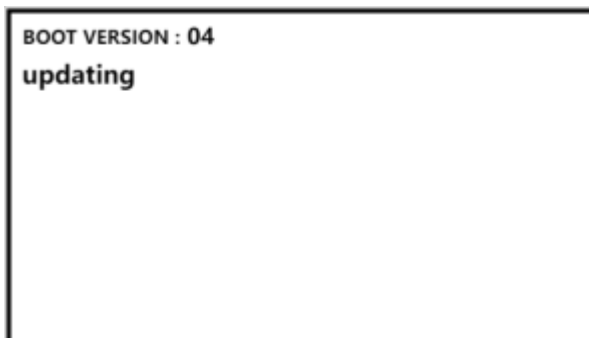
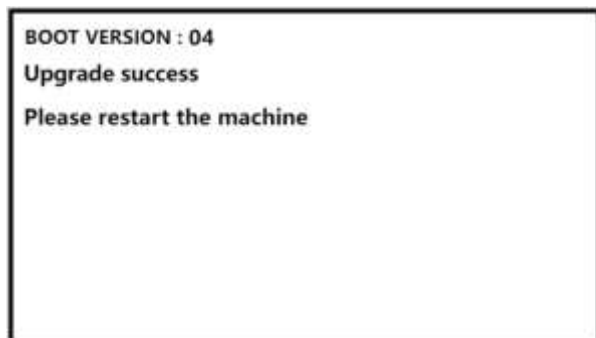

Figure 125
Figure 126
2) Turn on the machine, the machine automatically reads the software in the U-disk for upgrading. The upgrade interface appears as shown in Figure 125. After the software is successfully upgraded, the interface will prompt to restart the machine as shown in Figure 126. Please unplug the U-disk first, and close the front cover, then restart the machine. After the machine self-test is completed, it will automatically enter the main interface and the machine software upgrade is completed. This process takes about 10 seconds.